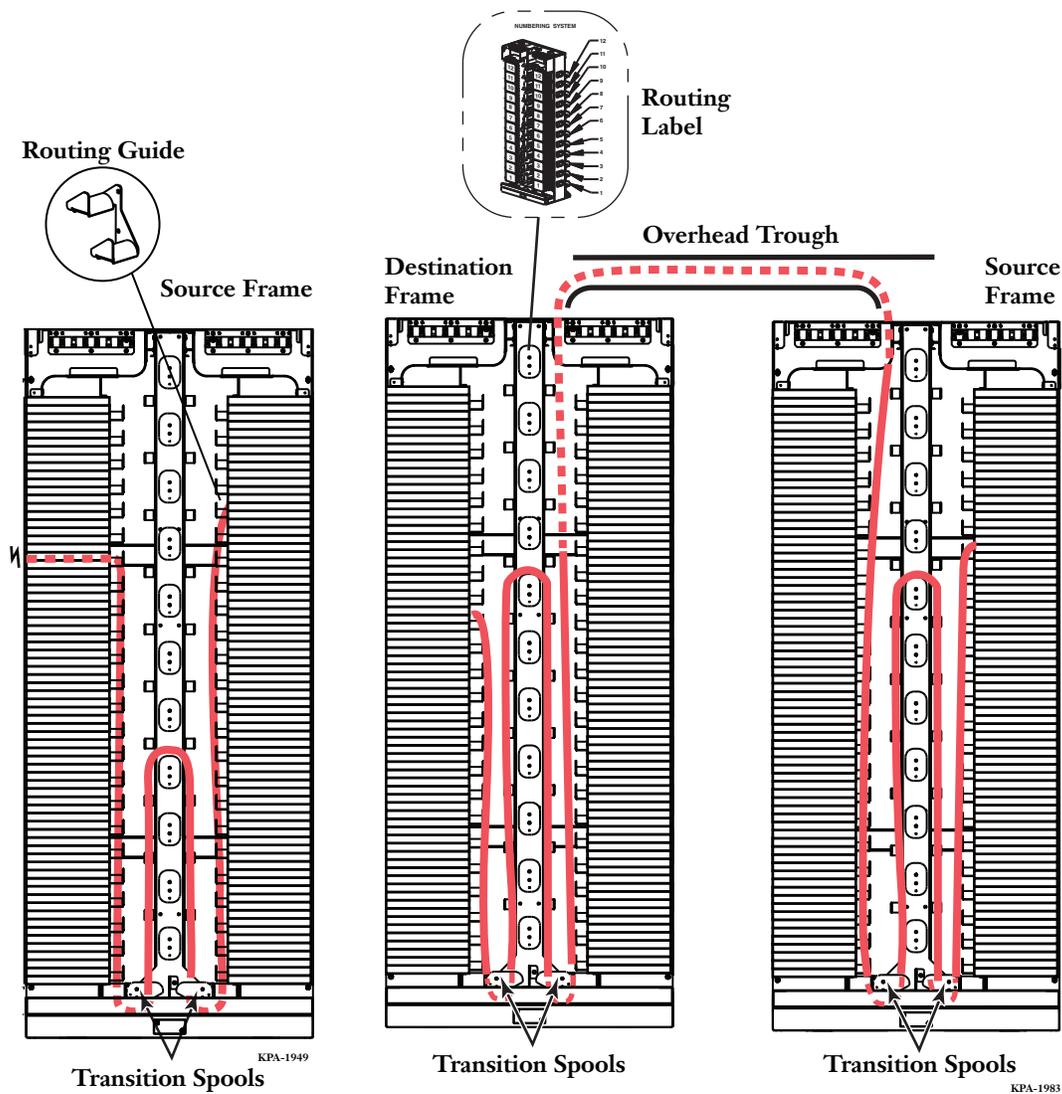

Figure 51
- If the fiber must pass overhead to cross an aisle or other passageway, route it up through the top of the IBU in the center of the frame (Figure 51).
- Step 5:** Dress jumpers around the side of the module and up over the side guide (Figure 51).
- Step 6:** Route jumpers loosely under the transition spool on the same side of the IBU as the module, up through the opening into a trough, and lay it along the trough to the destination frame. To achieve the optimal slack storage, move the jumper cord up or down to a different trough or to a higher or lower IBU spool on the source frame. NOTE: If the jumper must pass overhead to cross an aisle or other passageway, route it up through the top of the IBU in the center of the frame, as shown in Figure 51 on the right.